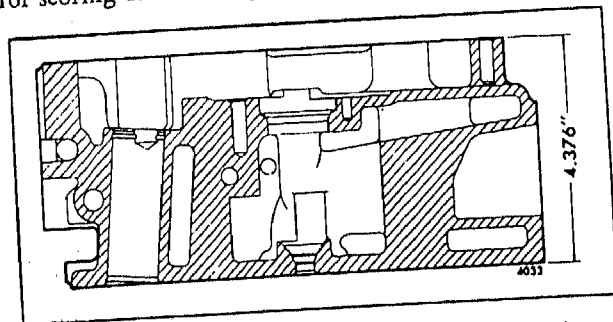

Fig. 4 - Minimum Distance Between Top and Bottom Faces of Cylinder Head
- c. If the cylinder head is to be refaced, remove the injector tubes prior to machining. Not over .020" of metal should be removed from the fire deck of the cylinder head. The distance from the top to the bottom (fire deck) of the cylinder head must not be less than 4.376", as shown in (Fig. 4). Stamp the amount of stock removed on the face of the fire deck near the outer edge of the head, in an area not used as a sealing surface.